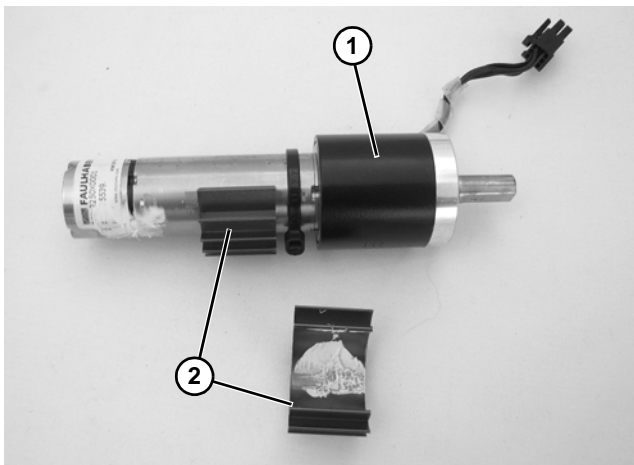

Figure 73
- Remove motor (**Figure 73, item 1**).
- Snap off heat sinks (**Figure 73, item 2**).